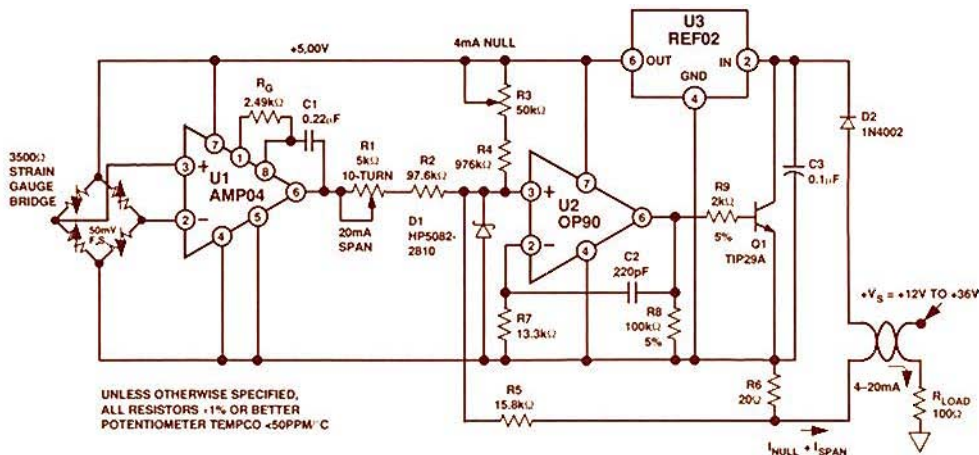

Figure 5. Precision bridge-output-to-4-20-mA-loop transmitter with non-interactive trims deriving all excitation functions from loop supply.
Amplifier devices with outputs that swing close to the negative rail enhance and/or simplify 4-20-mA loop transmitter designs, as exemplified in Figure 5. In this loop-powered strain-gage sensor application, a 50-mV full-scale (FS) bridge output is amplified and calibrated for a 4-20-mA transmitter output. Power is furnished by the remote loop supply of 12 to 36 V.